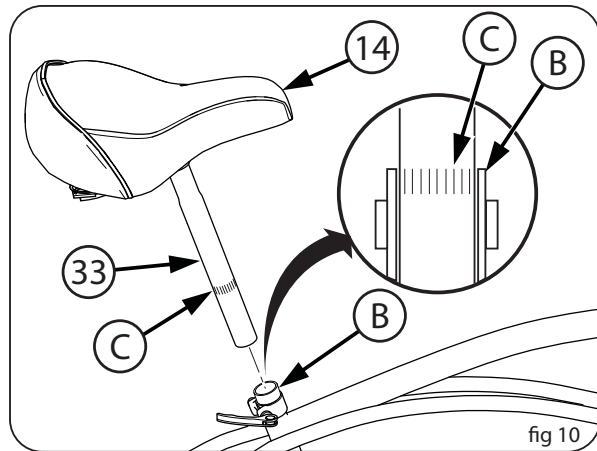

fig 10
- Point the Seat (14) forward and put the Seat Post (33) into the Seat Tube (B) (figs 10, 11).
**WARNING:** To prevent the seat coming loose and possible loss of control, the “MIN-IN” (minimum insertion) mark (C) on the seat post must be below the top of the Seat Tube (B).